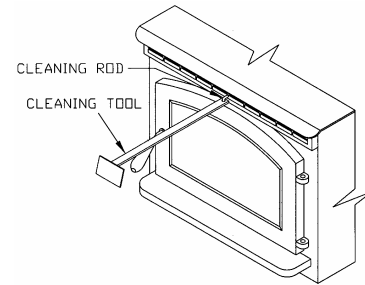

FIGURE 24
- With the door closed clean heat exchanger tubes. (See “**CLEANING**” and Figure 24).
- a. **Heat Exchange Tubes** – Your Breckwell stove is designed with a built-in heat exchange tube cleaner. This should be used every two or three days to remove accumulated ash on the tubes, which reduces heat transfer on the P23. Insert the handle end (with hole) of the cleaning tool onto the cleaning rod (refer to figure 24). The cleaner rod is located in the grill above the stove door. Move the cleaner rod back and forth several times to clean the heat exchanger tubes. Be sure to leave tube cleaner at the rear of the stove.